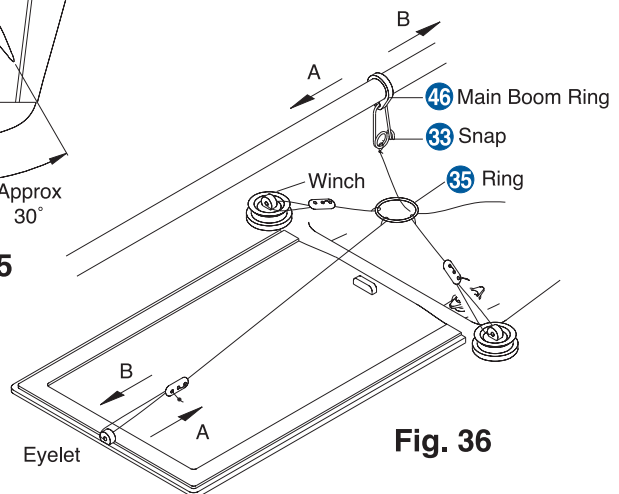

Fig. 36
- When the boom opens more than required, move the main sail boom ring toward the bow and tighten the adjuster tied to the line on the hatch cover rail eyelet. Refer to Fig. 36.
- When the boom will not open the required amount, move the main boom ring toward the stern, and then loosen the adjuster. See Fig. 36.